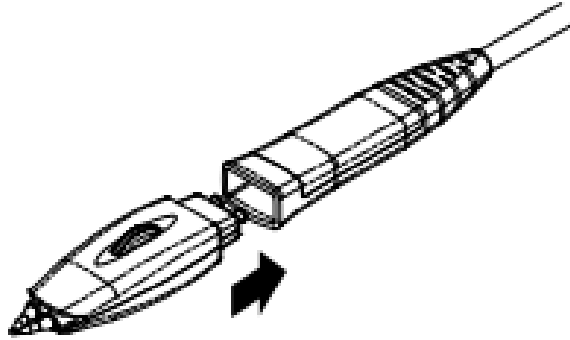

Figure 7.4 To Connect the Probe Head to the Preamp of the Active Probe
1. Connect the probe head to the preamp of the active probe, as shown in *Figure 7.4*.